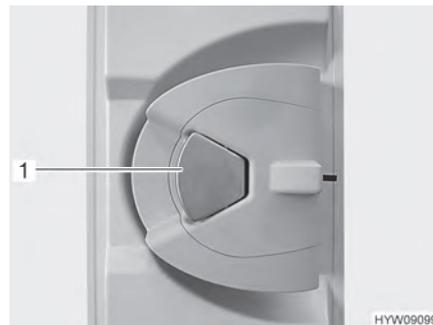

Fig. 33 Door lock (conversion door, inside)
- Opening:* ■ When the door lock is locked: Pull once at the door handle (Fig. 33,1). The door is unlocked.
- Pull on the door handle (Fig. 33,1). The door is open.
- Locking:* ■ Push the door handle (Fig. 33,1).